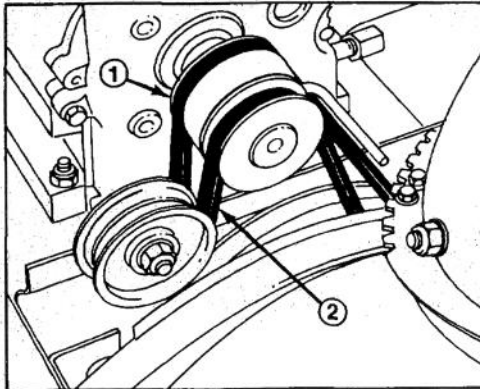
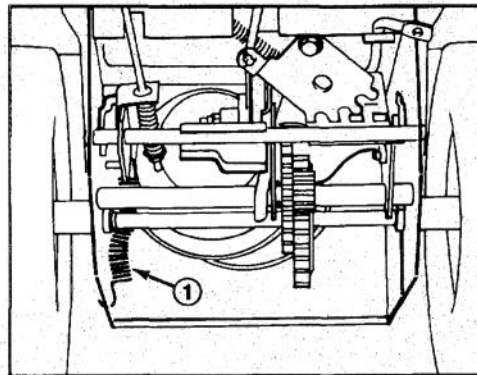

Figure 23
Figure 24
When auger/impeller drive belt (Fig. 23) becomes worn, stretched, oil-soaked, or otherwise defective, belt replacement is required.
3. Remove auger drive belt from engine pulley and large auger/impeller pulley (Fig. 23).
4. Install new belt around large auger/impeller pulley (Fig. 23). Next, loop belt over engine pulley, making sure that belt is on inside of idler pulley and wire belt guide (Fig. 23).
4. Tip snowthrower onto auger housing and block it so it cannot fall. Remove rear shield and disconnect spring from side plate (Fig. 24).
5. Set unit upright and remove traction drive belt from engine pulley and large traction pulley (Fig. 23).
6. Install new belt around large traction pulley (Fig. 23). Next, loop belt over engine pulley, making sure that belt is on inside of traction idler pulley and wire belt guide (Fig. 23). Tip snowthrower onto auger housing, block it and hook spring onto side plate (Fig. 24). Replace rear shield and set unit upright.
7. Replace auger/impeller drive belt: refer to Replacing Auger/Impeller Drive Belt, item 4-5.